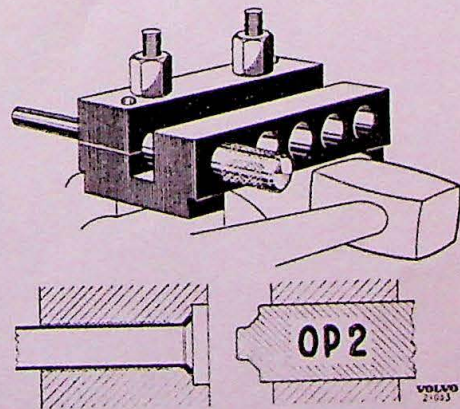

Fig. 12.
4. Place drift OP 1 into the tool. Hit the drift with a copper hammer until it bottoms. The edge of the piping will then be bent as shown in Fig. 12.
5. Replace the drift with OP 2 (Fig. 12) and hit the drift until it bottoms.